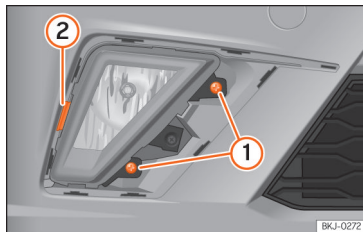

Fig. 164 Fog light: detach the bulb holder
- Remove the two bolts >>> **Fig. 164** ① and lever the clip ② to remove the front fog light.